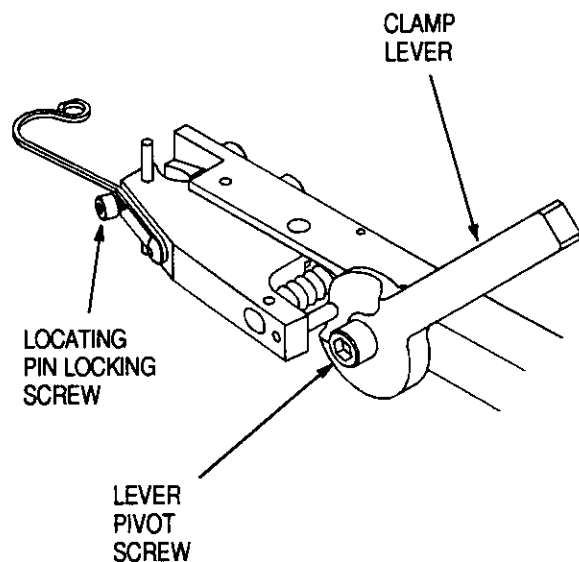

Figure 6
5.3. Cable Locating Pin (Figure 6)